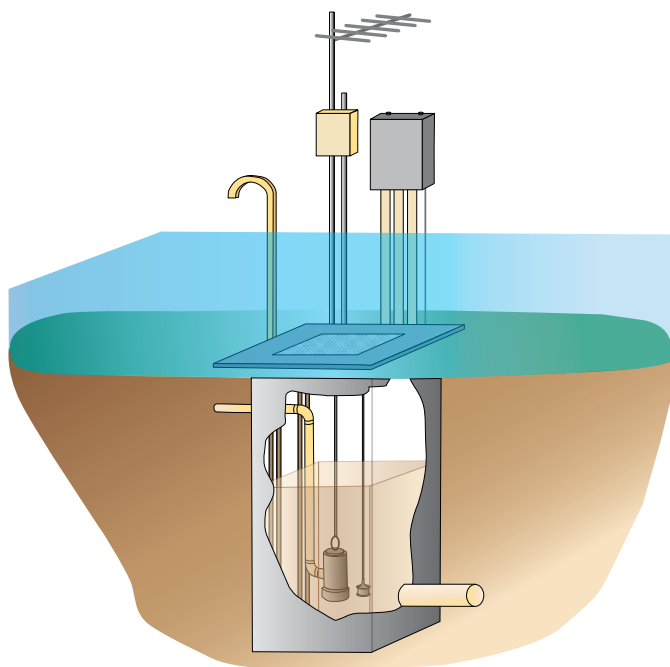

Figure 4.2.1. Extend vent pipes and electrical controls above the flood elevation at lift stations.
- Extend vent lines above the potential design flood elevation (Figure 4.2.1).